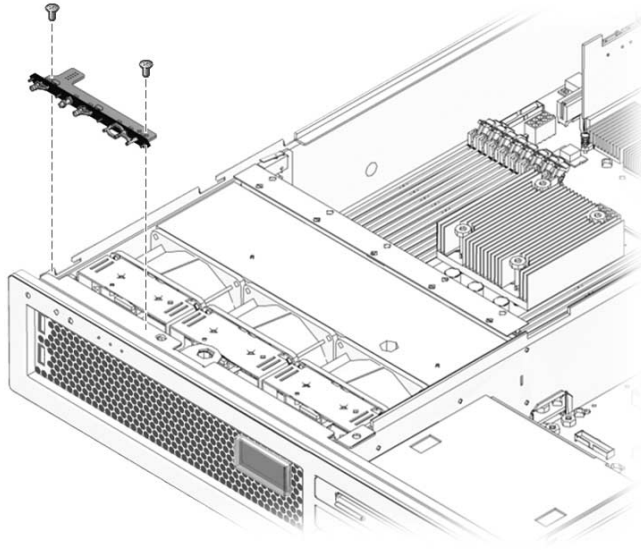

FIGURE 5-21 Removing the LED Board From the Chassis
3. Remove the screws that secure the LED board to the chassis (FIGURE 5-21).
3. Secure the LED board to the chassis using two M3x6 flat-head screws (FIGURE 5-21).